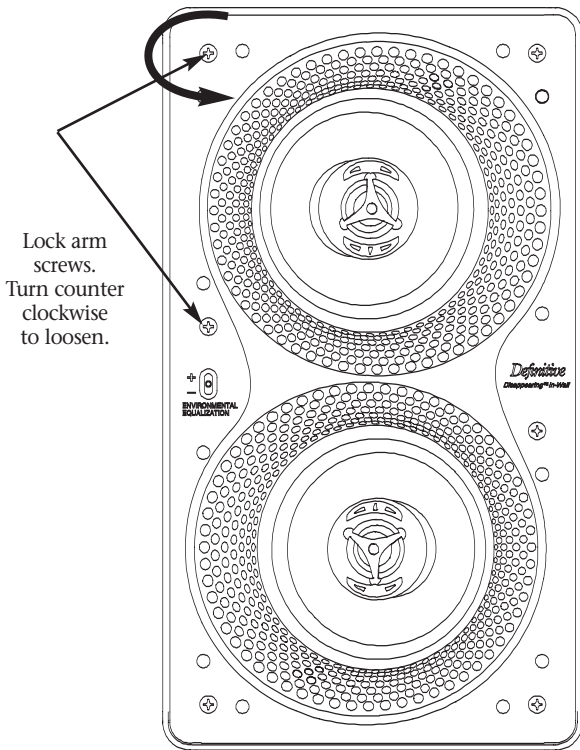
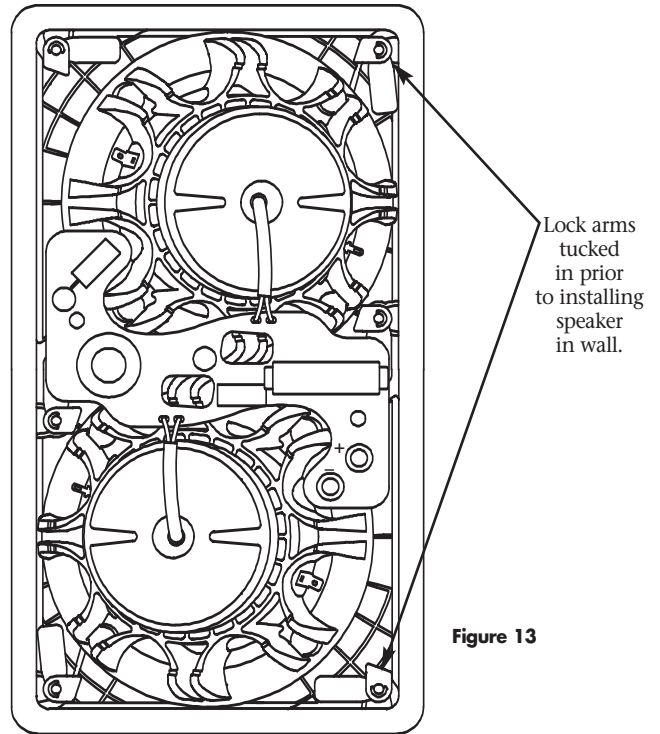

Figure 12
Figure 13
- Loosen the rotating lock arms by turning the lock arm screws on the front of the speaker counter clockwise [figure 12]. Make sure that the rotating lock arms are flipped inwards [figure 13] so that your speaker fits into your cutout.